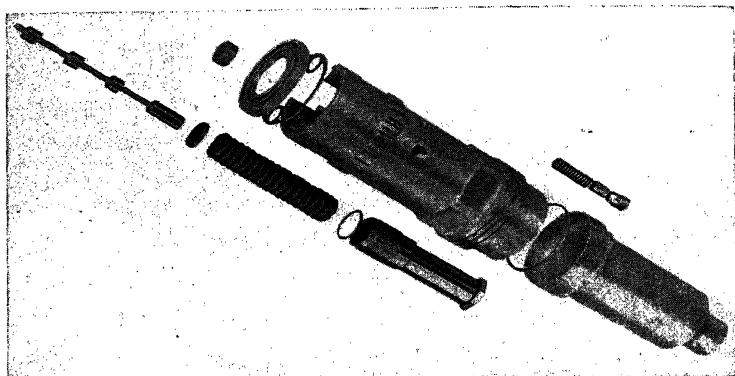

FIG. 34.—Valve assembly for engines breathing through propeller shaft.
*Valve Assembly.*—1. Insert the distributor valve in the sleeve in the valve housing with the smaller end toward the Allen plug (Fig. 34).